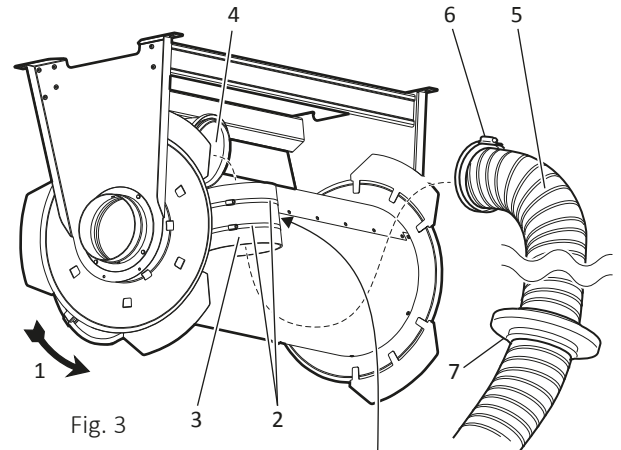
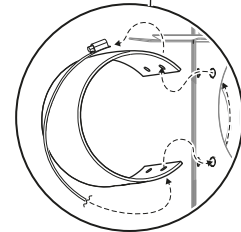

Fig. 3
Fig. 4
2. Secure the pallet and pre-load the hose reel according to the table. Turn the drum in the direction indicated by the arrow (1, Fig. 3).
3. Remove the hose clamp (2) and rubber sheet (3).
4. Install the hose (5) on the suction tube (4) using hose clamps (6).
5. Secure the hose by first placing the rubber cloth (3) around the hose. Then pull the hose clip (2) through the holes and around the rubber sheet to lock securely (Fig. 4).
6. Install the hose stop (7, Fig. 3) in the desired position. Release the latch and wind the hose until it stops against the hose stop. Check that the hose stop is working and assembled correctly.